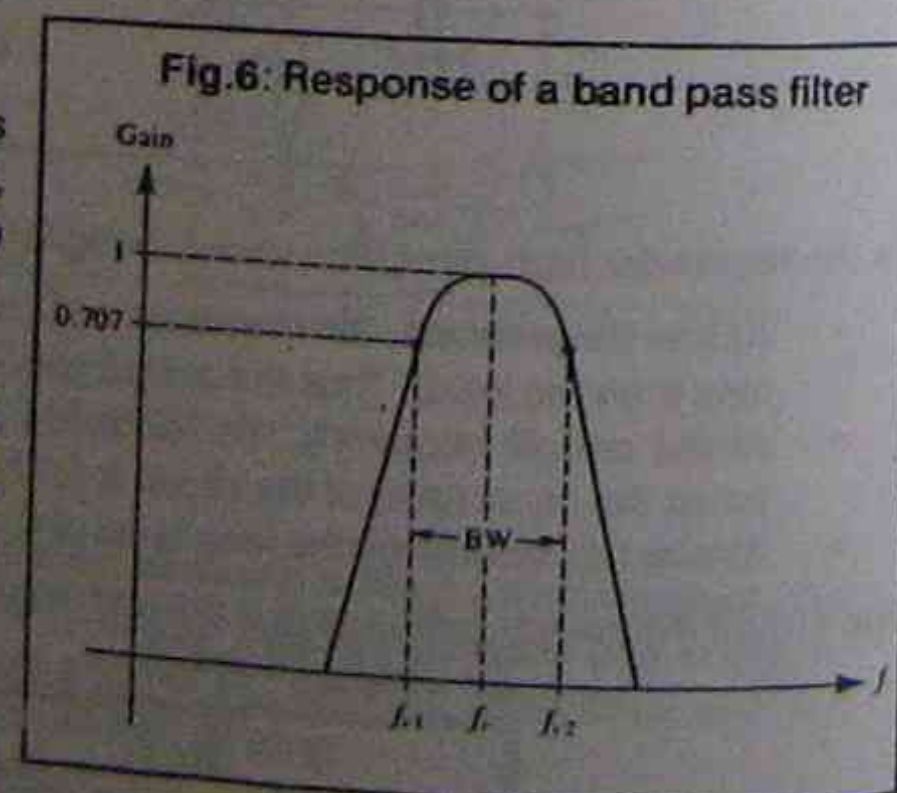

Fig.6: Response of a band pass filter
Band-pass filters pass a range of frequencies between their lower and upper cut-off frequencies, as shown in Fig.6. The range of frequencies between f_L and f_H is termed the bandwidth (BW) where: